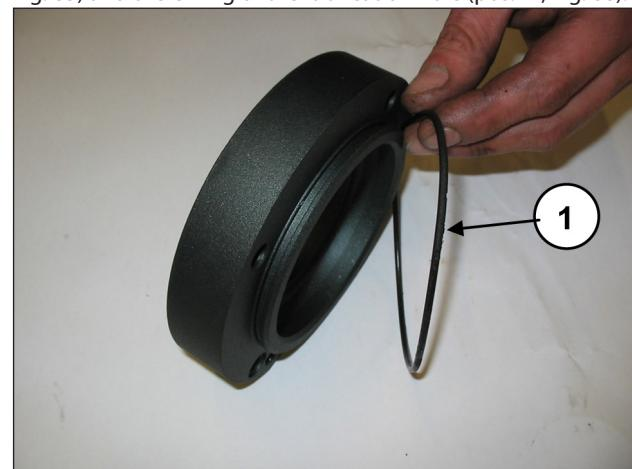

Fig. 65
Apply to the PTO bearing covers: the external O-ring (pos. ①, Fig. 65) and the O-ring of the lubrication hole (pos. ①, Fig. 66).